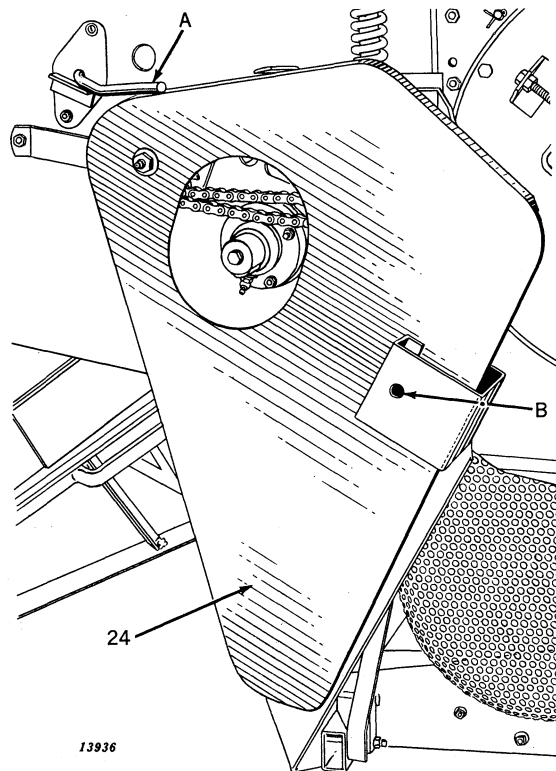

Figure 10
21. Reinstall feeder frame, platform drive roller; feeder drive sheave, platform drive roller sheave and sickle drive pipe. Replace canvas tightener crank with new one furnished as shown at "A," Figure 10.
24. (Figure 10) Attach drive chain shield as shown.
NOTE: If Combine is equipped with adjustable reel attachment, discard flat bracket to which P2561 H square lock bracket for outer reel support square pipe is attached. Bolt P2561 H square lock bracket to shield at "B," Figure 10.